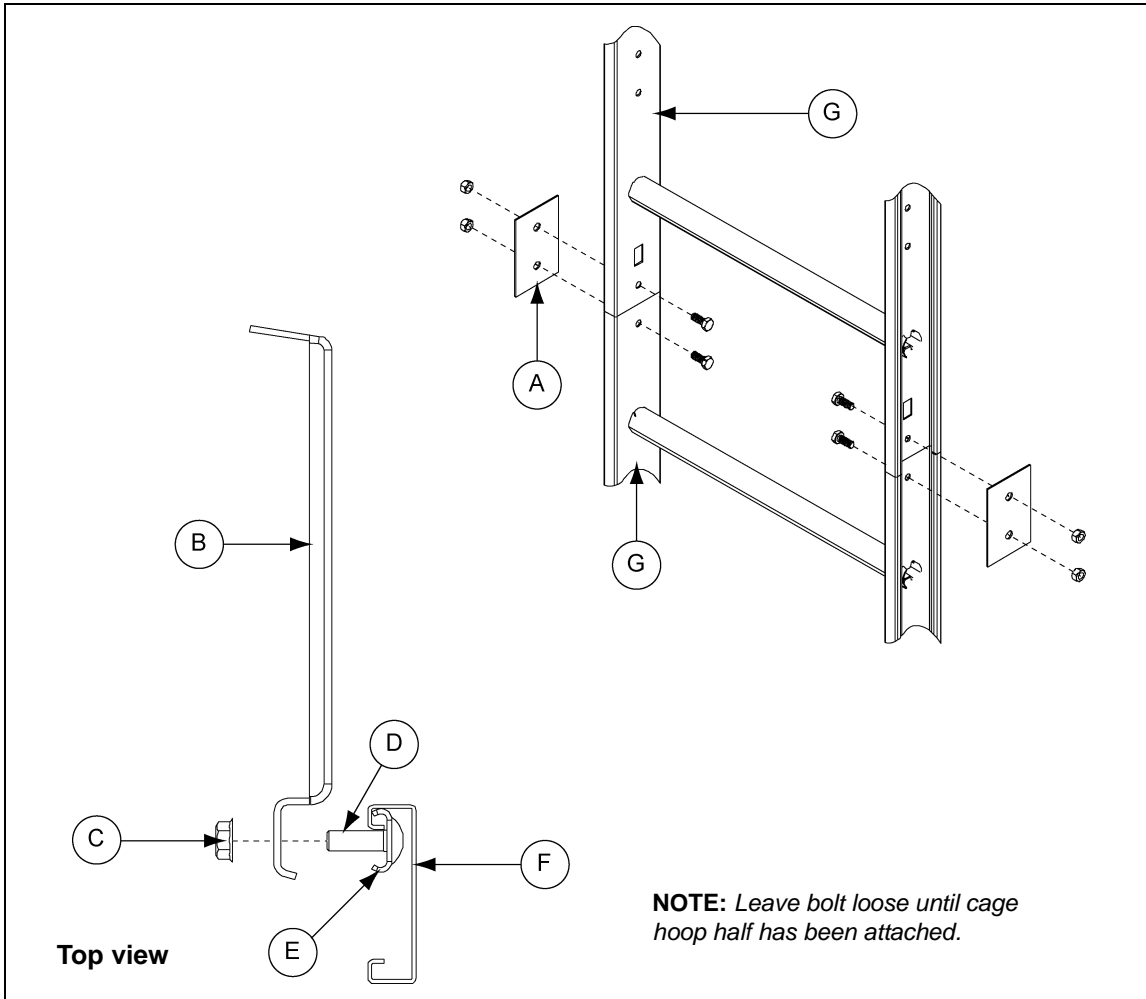

Figure 8L
Two (2) splice plates are required to attach each additional ladder section. The head of the bolt should be to the inside of the ladder with the splice plate on the outside as shown in *Figure 8L*. Use 5/16" x 1" bolts for all connections.